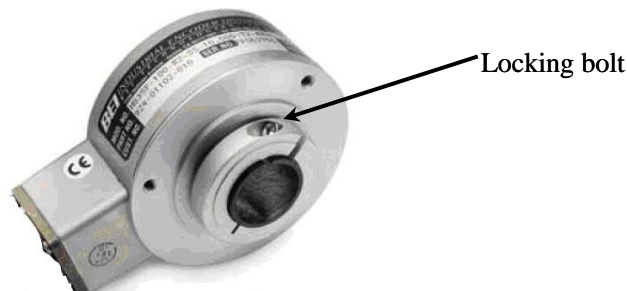

Figure 14 Encoder
3. Loosen the locking bolt of the encoder using a 9/64" hex wrench, and remove the bolt which connects the motor and the encoder bracket with a 8mm hex wrench, then remove the broken encoder. See Figure 14.